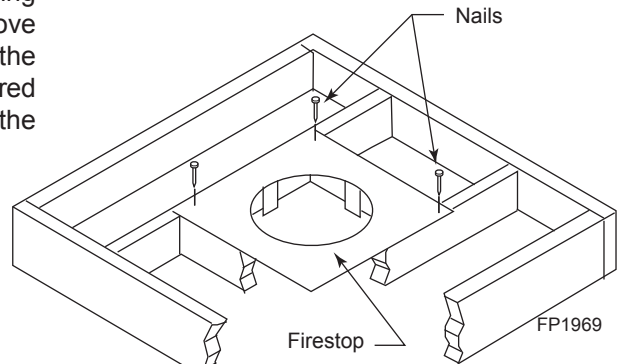
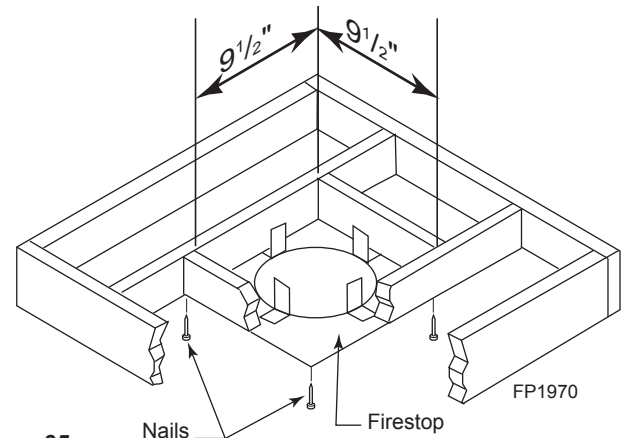

Figure 34 -
Figure 35 -
1. Cut a 9½" (241 mm) square hole in the ceiling using the locating hole as a center point. The opening should be framed to 9½" x 9½" (241 x 241 mm) inside dimensions as shown in Figure 34 using framing lumber the same size as the ceiling joist. If the area above the ceiling is an insulated ceiling or a room, nail firestop from the top side. This prevents loose insulation from falling into the required clearance space. Figure 34. Otherwise, install firestop below the framed hole. Figure 35. Otherwise, install firestop below the framed hole.
A manual shutoff valve must be installed upstream of the appliance. Union tee and plugged 1/8" NPT pressure tapping point should be installed upstream of the appliance. *Figure 35*